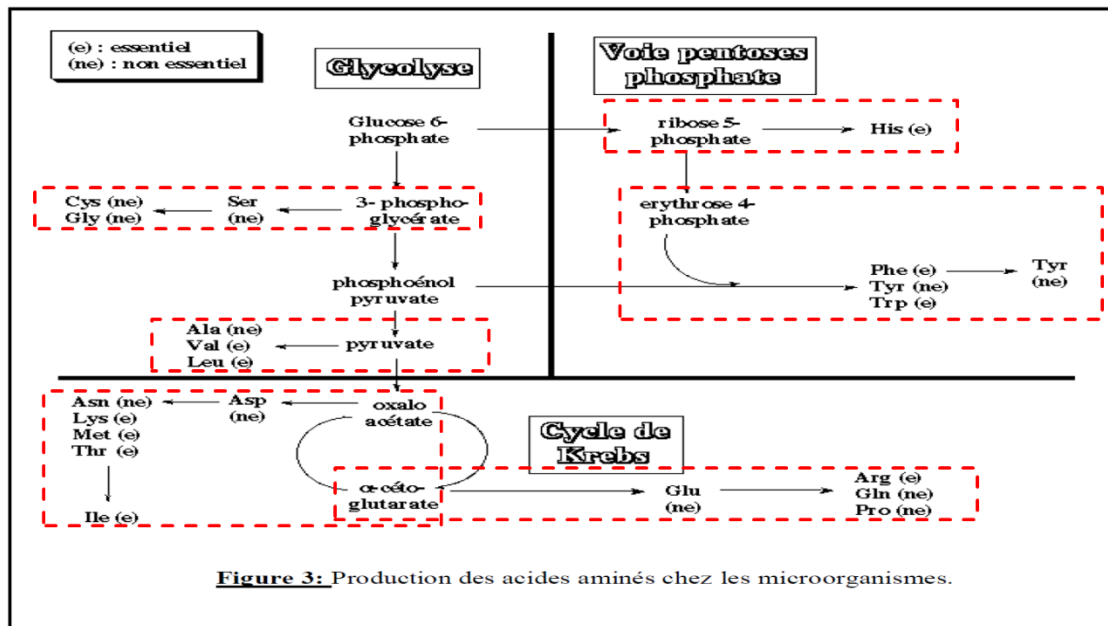

Figure 17 : Amino acids productions by microorganisms.
- ❖ In fact, glutamate serves as the donor of the amine group to many other amino acids through transamination reactions (figure 17).